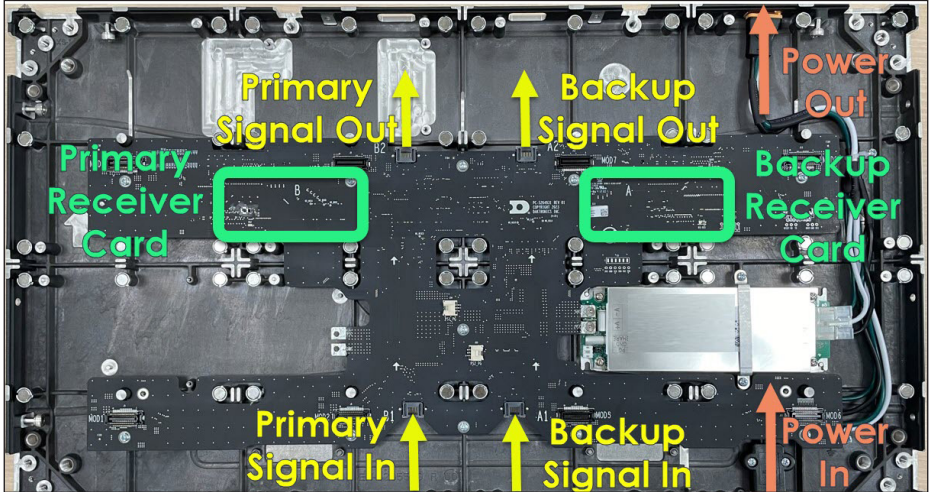

Figure 10: Panel Overview (Receiver Card is on Rear of the Hub Board.)
- 6. Route the male end of the AC power input cable through the rectangular cutout in the panel prior to placing the panel if installing a panel where power needs to land. Refer to **Figure 10**.